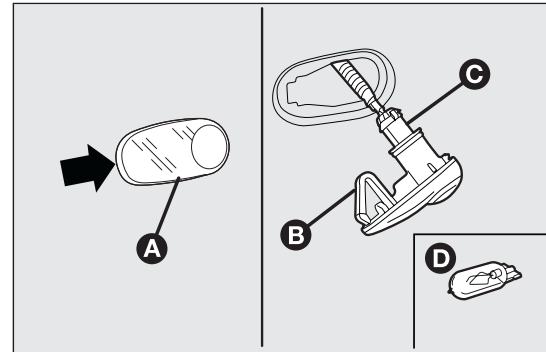

fig. 162
- adjust the lens A fig. 162 to compress in the internal catch B, then pull the cluster outwards;